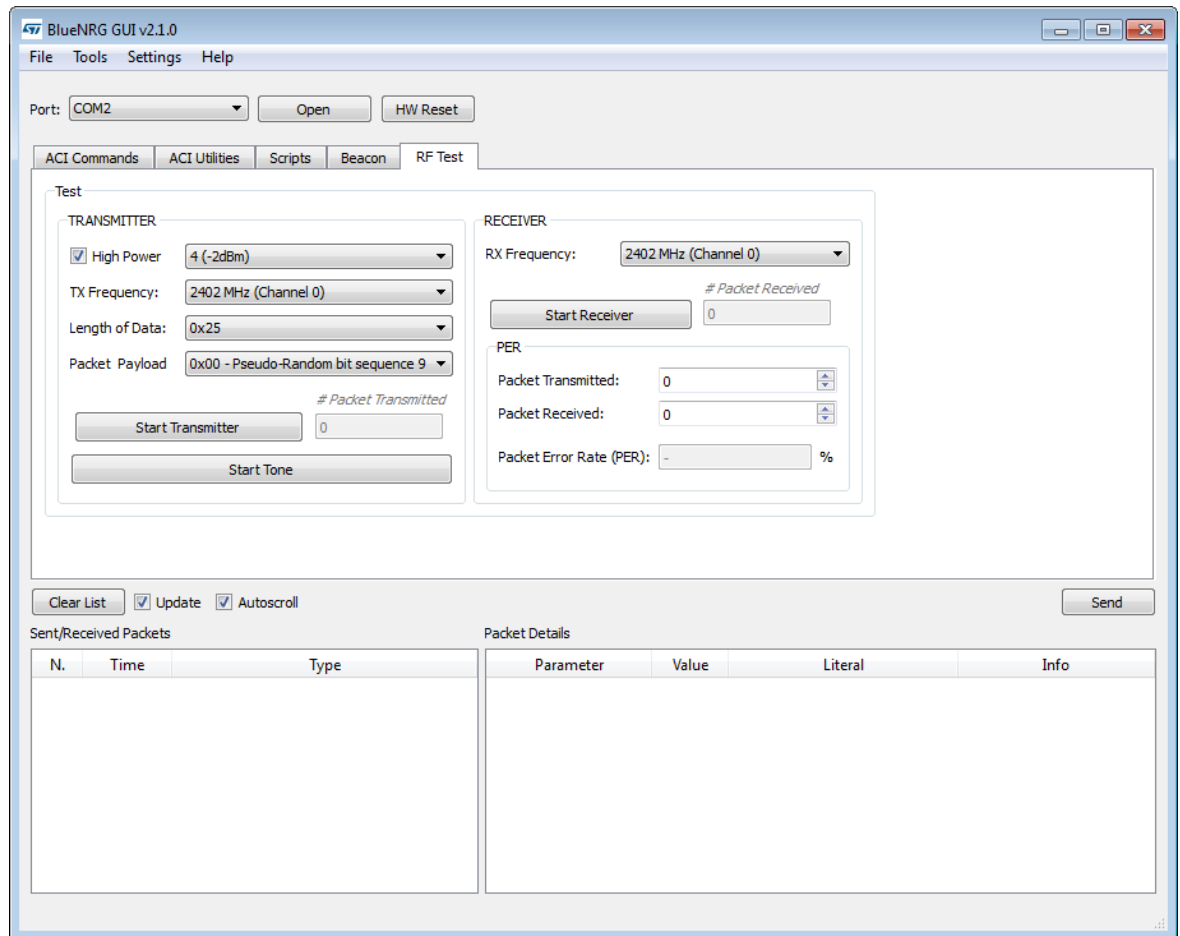

Figure 1: BlueNRG GUI v2.1.0 - RF Test Tab
- Select the "RF Test" tab in the GUI (see Figure 1). Set the RF parameters as desired. In the "TRANSMITTER" section, the "Start Transmitter" button will start the